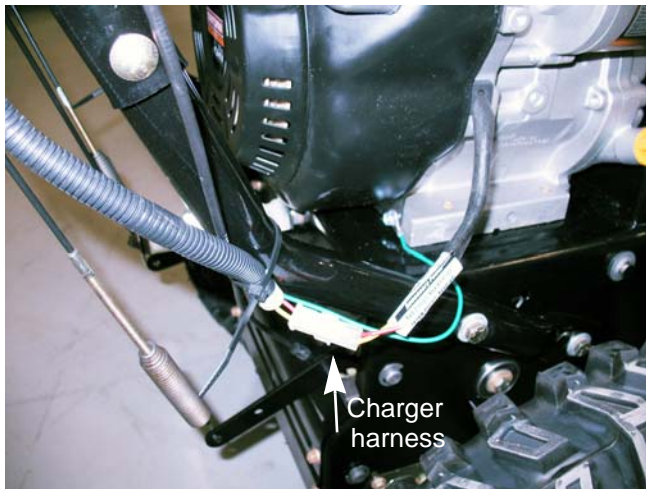

Figure 6.15
1. Locate the charger harness. It will be by the right handle bar of the snow thrower when the engine is installed. See Figure 6.15.